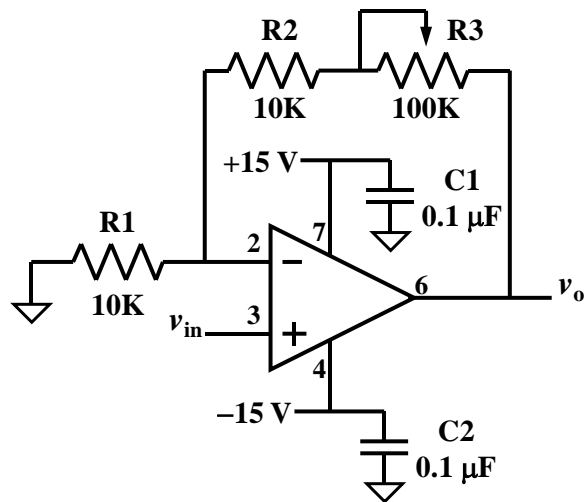

Fig. 3. Second op-amp circuit
- Calculate three numerical gains for the circuit 2 (Fig. 3) for $R_3 = 30\text{ k}\Omega$, $100\text{ k}\Omega$, and $0\text{ }\Omega$
3. Consider the second circuit in Fig. 3.